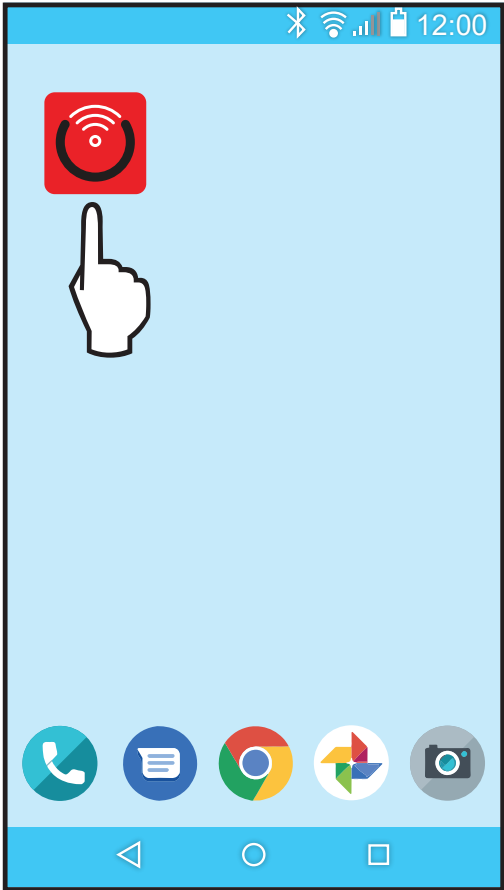

Figure 74. Find your Raymote Mobile App Icon
2. Find the Raymote mobile app icon on your device. See **Figure 74**.